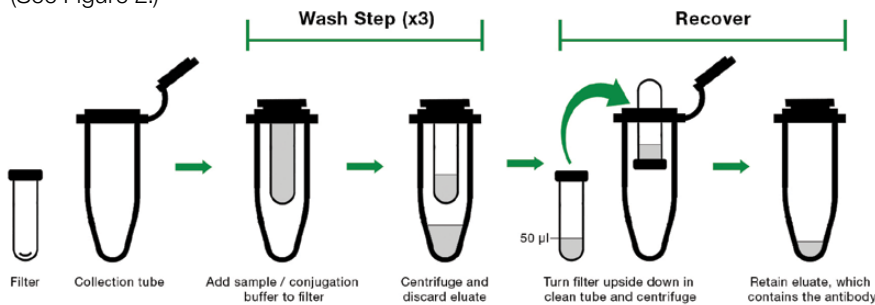

Fig. 2. Filter components and usage overview.
- 1.1 Add 100 μg of purified antibody to the filter and then place the filter into the collection tube (Figure 2). Note: The filter has graduations to indicate volume.
- 1.5 Ensure the antibody volume is \sim 50 μl and no more than 100 μl . If the volume of antibody exceeds 100 μl , perform further centrifugations (5,000 \times g for 2 min) until the volume is less than 100 μl . Invert the filter and place into the empty collection tube. (See Figure 2.)